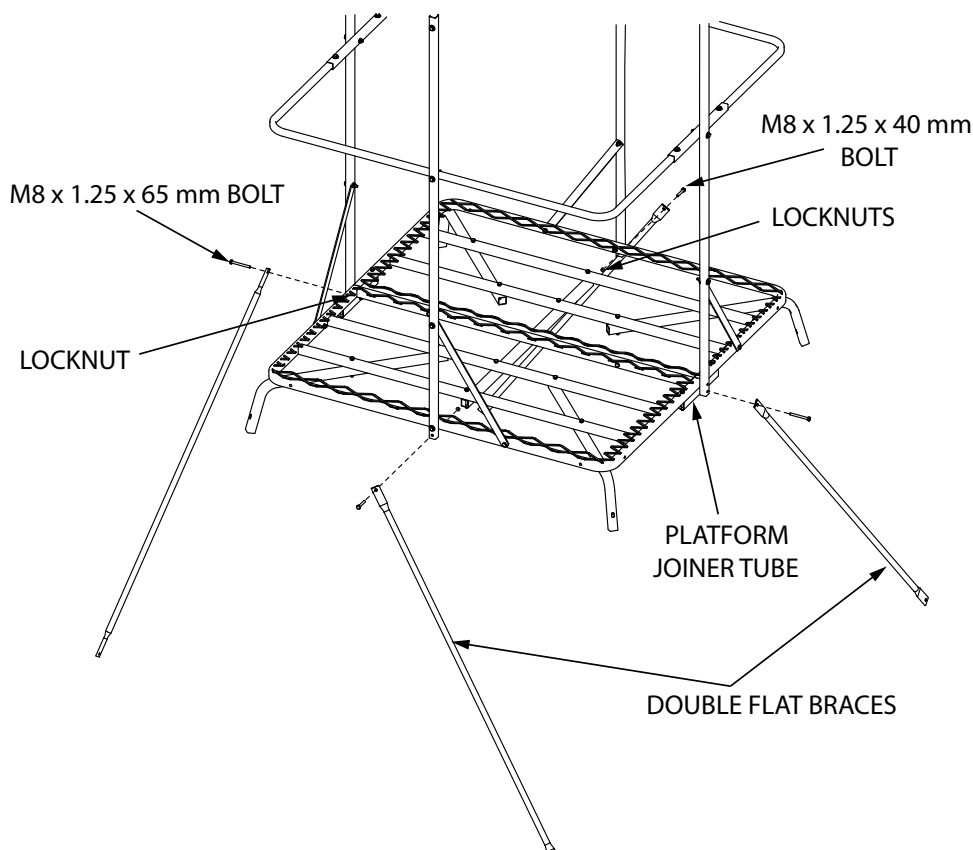

FIGURE 10
- Attach (2) double flat braces (TP135) to the bottom hole of each blind upright (TWR18) that is already attached to the long side of each platform using (2) provided M8 x 1.25 x 40 mm bolts and locknuts. **SEE FIGURE 10**
- Attach remaining (2) double flat braces to blind uprights/platform joiner tubes using (2) provided M8 x 1.25 x 65 mm bolts and locknuts. **SEE FIGURE 10**